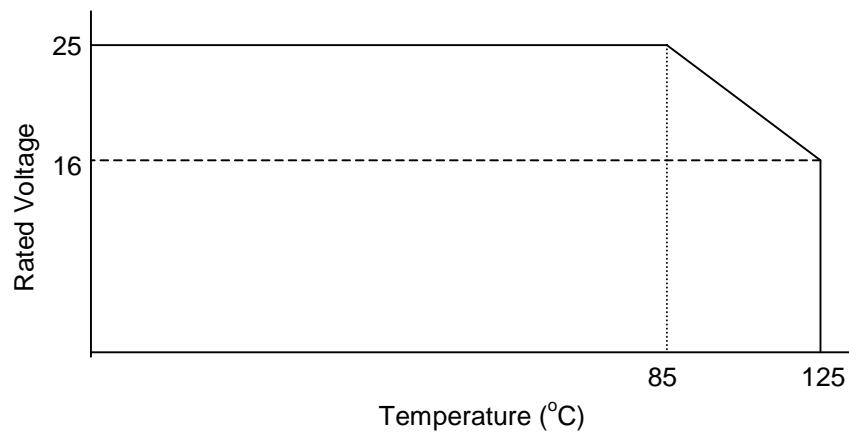

Figure 1: Maximum Voltage Rating for Electrolytic Tantalum Capacitor, Example # 1
- a. The device is a 6.8 μf electrolytic tantalum capacitor. Device ratings according to the datasheet are shown in Figure 1. Maximum rated operating voltage is 25 VDC up to 85°C. Absolute maximum operating temperature (T_{MAX}) is 125°C. The device is rated for operation up to 16 VDC of maximum operating at 125°C.